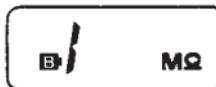

Fig. 2
7. If the INSUL. TEST VOLT ON indicator lights up but the LCD shows the "B" marking as shown in Fig. 2 when the POWER switch is pressed to ON, the built-in batteries are nearly exhausted. In this case, replace them with new batteries.